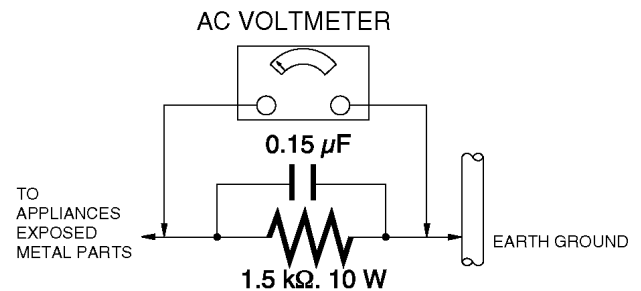

Figure. 1
| 1.3. Leakage Current Hot Check (See Figure 1.) | 3 | |
1.3. Leakage Current Hot Check (See Figure 1.)
2. Connect a $1.5\text{ k}\Omega$, 10 W resistor, in parallel with a $0.15\text{ }\mu\text{F}$ capacitor, between each exposed metallic part on the set and a good earth ground, as shown in Figure 1.